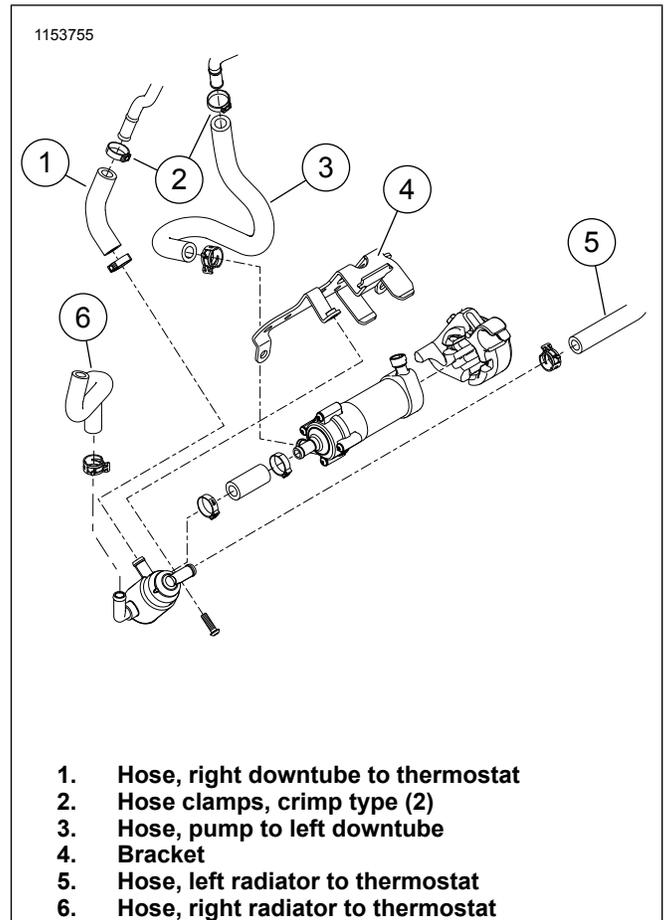

Figure 1. Coolant Hoses and Bracket
5. See Figure 1. Remove clamps (2) and hoses (1, 3, 5, 6).
6. Remove bracket (4).